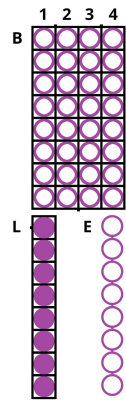

Figure 1:
3. Carefully peel off the foil covering the elution strip (E) and Cartridge (B). Load the prepared consumables into the IndiMag 2, load the rod covers into correct positions
4. Carefully peel off the foil covering the lysis strip (L).
5. Pipet 200 µl sample into the bottom of the lysis strip according to Figure 1 (L; marked in purple).